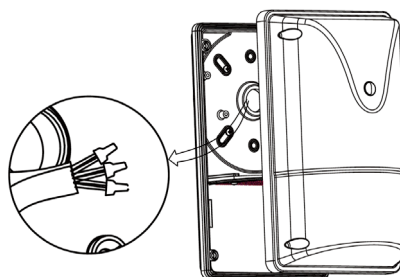

Fig. 5
6. Connect the luminaire to supply wires. (Fig. 5)